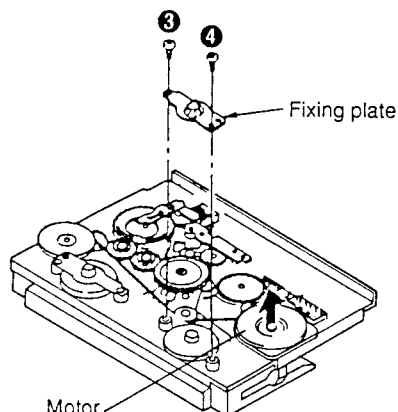

Fig. 2
3. Remove the 2 screws(❸, ❹) and the fixing plate.(Refer to Fig. 2.)
4. Remove the motor in the direction of arrow.(Refer to Fig. 2.)